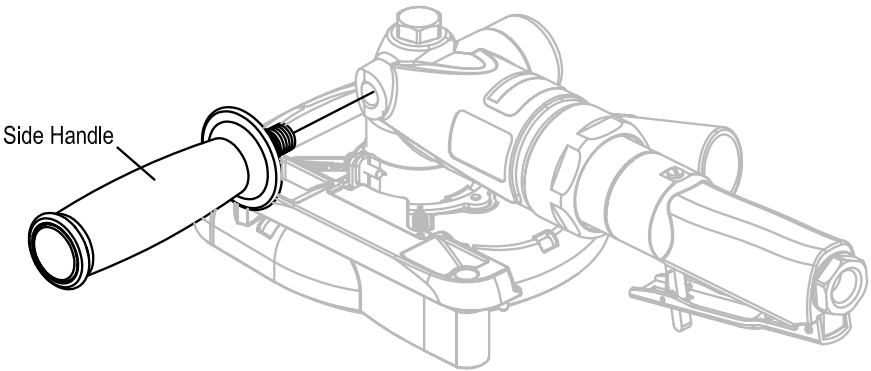

Figure 12
1. Screw the side handle on the position of the pneumatic grinder as show in Figure 12.